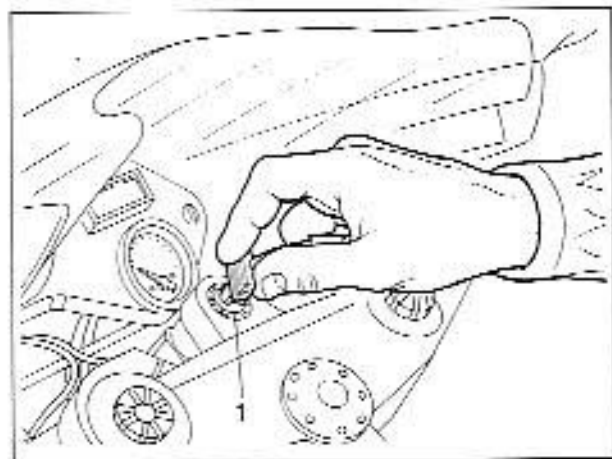

Fig.1
- 1 - Commutatore avviamento a chiave sulla base di sterzo (Fig. 1)
- 1 - Ignition key switch at the base of the steering column (Fig. 1).
- 1 - Commutateur d'allumage en clé sur la base de la direction (Fig.1)
- 1 - Anlasserumschaltung mittels Schlüssel an der Lenkerbasis (Abb.1)